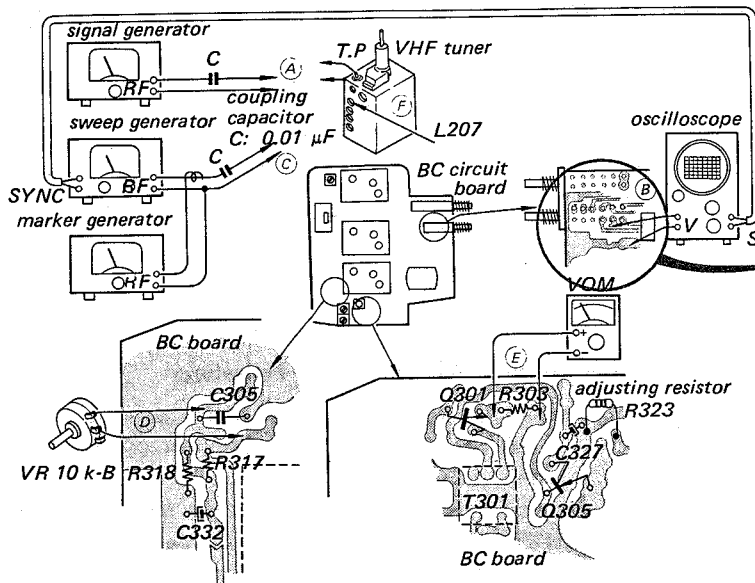

Fig. 19
6. Set a resistor R323 (18k - 20k ohms) for a reading of 1.25 - 1.35 volts. (See Fig. 19).
1. Connect a signal generator to the test point of tuner through a 0.01 μ F capacitor (① in Fig. 19).
2. Connect a scope to the VIF output terminal (VIDEO OUT) through a noise filter consisting of a 10k-ohm resistor and 200pF capacitor (② in Fig. 19).
9. Connect the sweep/marker generator to the test point (C in Fig. 19).
10. Connect a rheostat (10k-ohm) to the point indicated with D in Fig. 19.
11. Connect a VOM across a resistor R303 (E in Fig. 19).
16. Adjust L207 in the tuner when satisfactory VIF response curve is not obtained by foregoing procedures (F in Fig. 19).